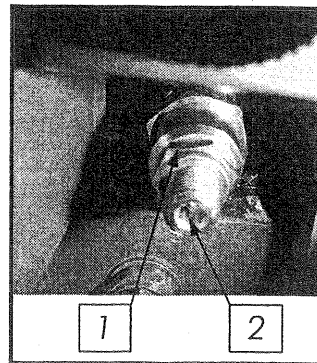

Figure 13-2. Adjusting the steering speed
2. Adjust the turning speed by opening locking nut 1 of the steering speed adjustment screw 2 in the lower chassis valve group (figure 13-2).